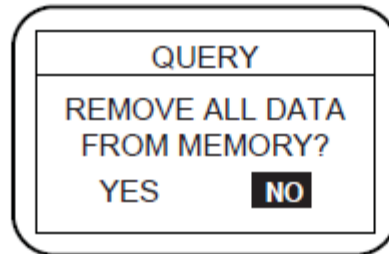

Figure 13
2.8.19 To accomplish it, access the "MEMORY" mode from the operating modes menu. Place the cursor on the "MEMORY CLEARING" option in the sub-menu. Press the «**↵**» button. The graphic display will look like the one depicted in Fig. 13.